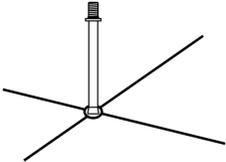

Figure.2
2. Pre-install the 8 expansion bolts (M16*150) with 140 N•m. (Figure.2)